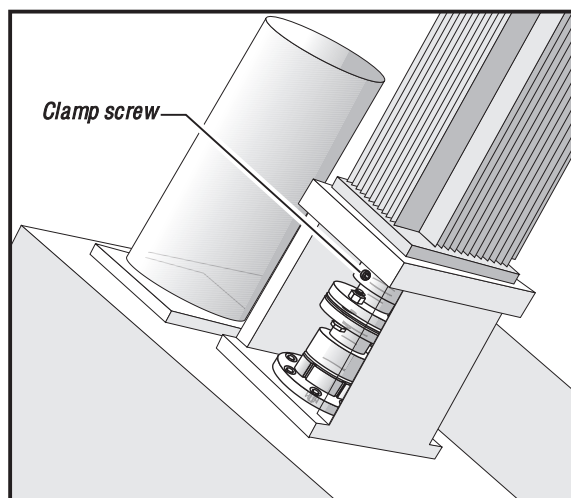

Figure 3-1. Turret motor adjustment..
4. Loosen the turret motor coupling clamp screw closest to the motor. (Refer to Figure 3-1)